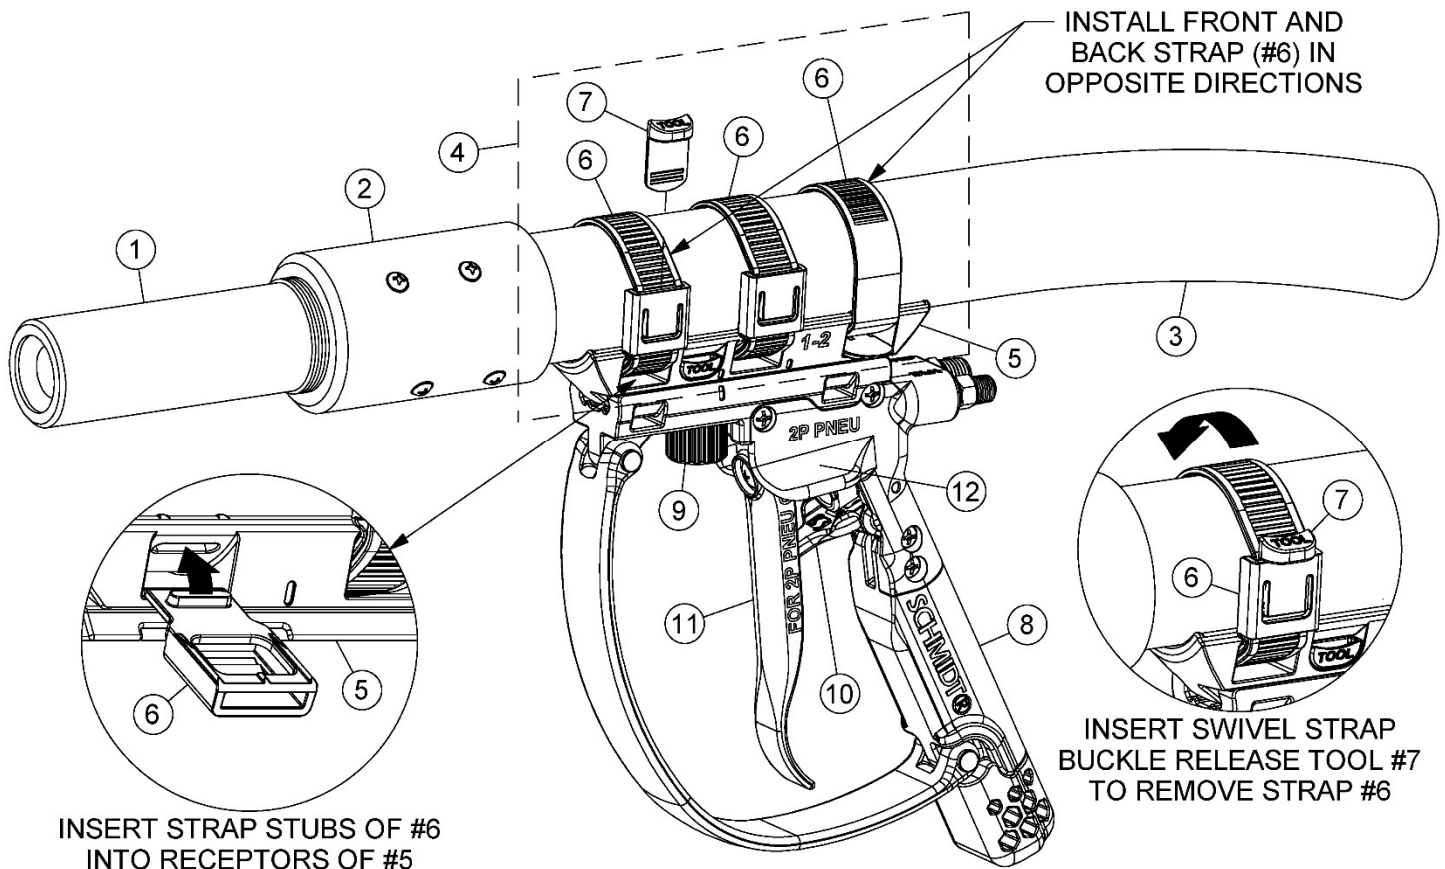

Figure 3.1 – BAABS G3 Swivel Strap Assembly Installed on Blast Hose
(See Figure 3.1 for part number identification)
- 3.2.1 Insert first strap (#6) into G3 Swivel Strap Adapter (#5) slot. Make sure that the two stubs on each strap are inserted and locked into the stub receptors located near each slot of the G3 Swivel Strap Adapter (See Figure 3.1).
- 3.2.3 Repeat the above two steps for the other two straps. ATTENTION: the third strap must be installed in the opposite direction of the first strap to ensure proper functionality of the G3 Swivel Strap Adapter Assembly (#4) (See Figure 3.1).
- 3.4.3 Insert the Swivel Strap Buckle Release Tool (#7) into buckle of the strap (#6) (See Figure 3.1). A small screwdriver can also be used if you do not have a Swivel Strap Buckle Release Tool (#7). Insert the screwdriver into the strap buckle in the same direction as the Swivel Strap Buckle Release Tool shown in Figure 3.1 until it disengages the locking tab in the strap buckle.
- 3.4.4 Loosen the strap (#6) in the same direction as the arrow shown in Figure 3.1 to remove the strap from the blast hose.